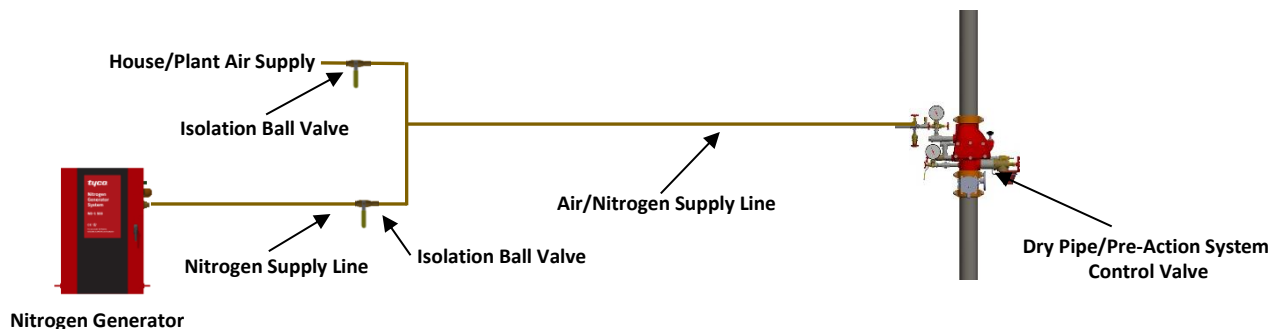

Figure 3c
Step 3c: Plumb the Nitrogen/Air Supply Line – With House/Plant Air Supply (Figure 3c)